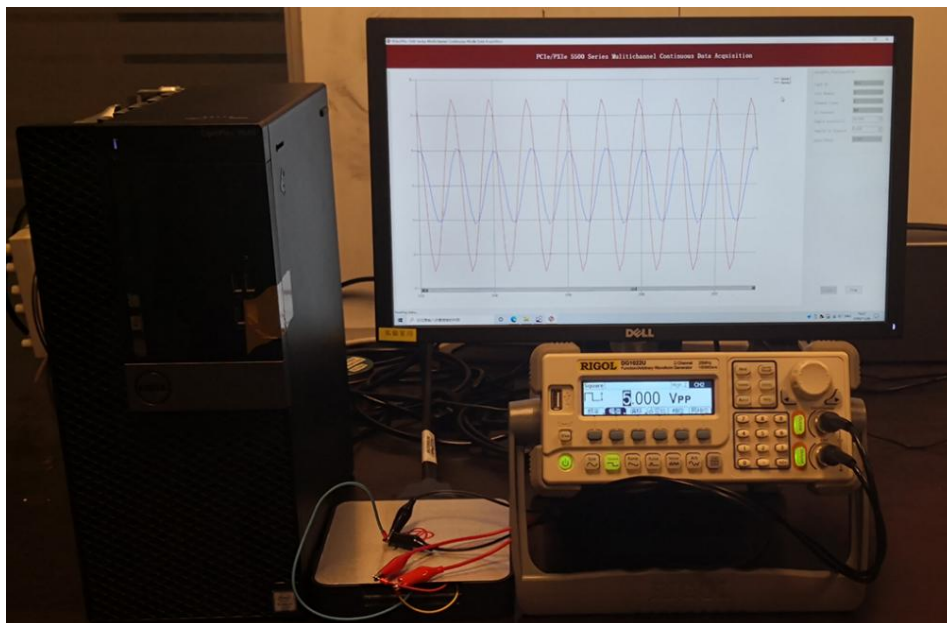
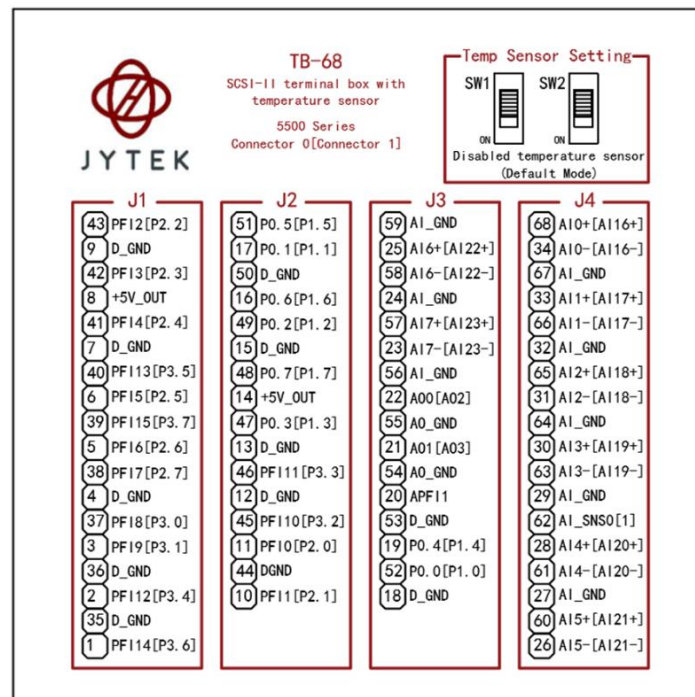

Figure 3 PCIe-5111 experiment
Figure 4 TB-68 Terminal Block
- Connect the two signal source's positive outputs to PCIe-5111 AI Ch0 (AI0+, Pin #68) and AI Ch1 (AI1+, Pin#33), two negative terminals to the ground (AI\_GND, Pin#67) as shown in Figure 3 and Figure 4 (AI0+, AI\_GND) and (AI1+, AI\_GND) consist of two channels of RSE inputs and they share the same GND.
- Connect the two signal source's positive outputs to PCIe-5111 AI Ch0 (AI0+, Pin #68) and AI Ch1 (AI1+, Pin#33), two negative terminals to AI Ch0 negative (AI0-, Pin#34) and AI Ch1 negative (AI1-, Pin#66) as shown in Figure 3 and Figure 4. (AI0+, AI0-) and (AI1+, AI1-) consist of two pairs of DIFF inputs;
- Connect the signal source's positive terminal to PCIe-5111 AI Ch0 (AI0+, Pin#68), the negative terminal to the ground (AI\_GND, Pin#67) as shown in Figure 3 and Figure 4. (AI0+, AI\_GND) consists of a RSE input.